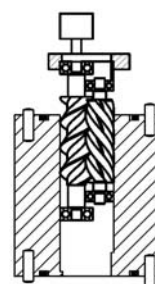

Fig.3
- insert measuring spindle set into measuring case (Fig.3)
- mount spacers (Fig.3)